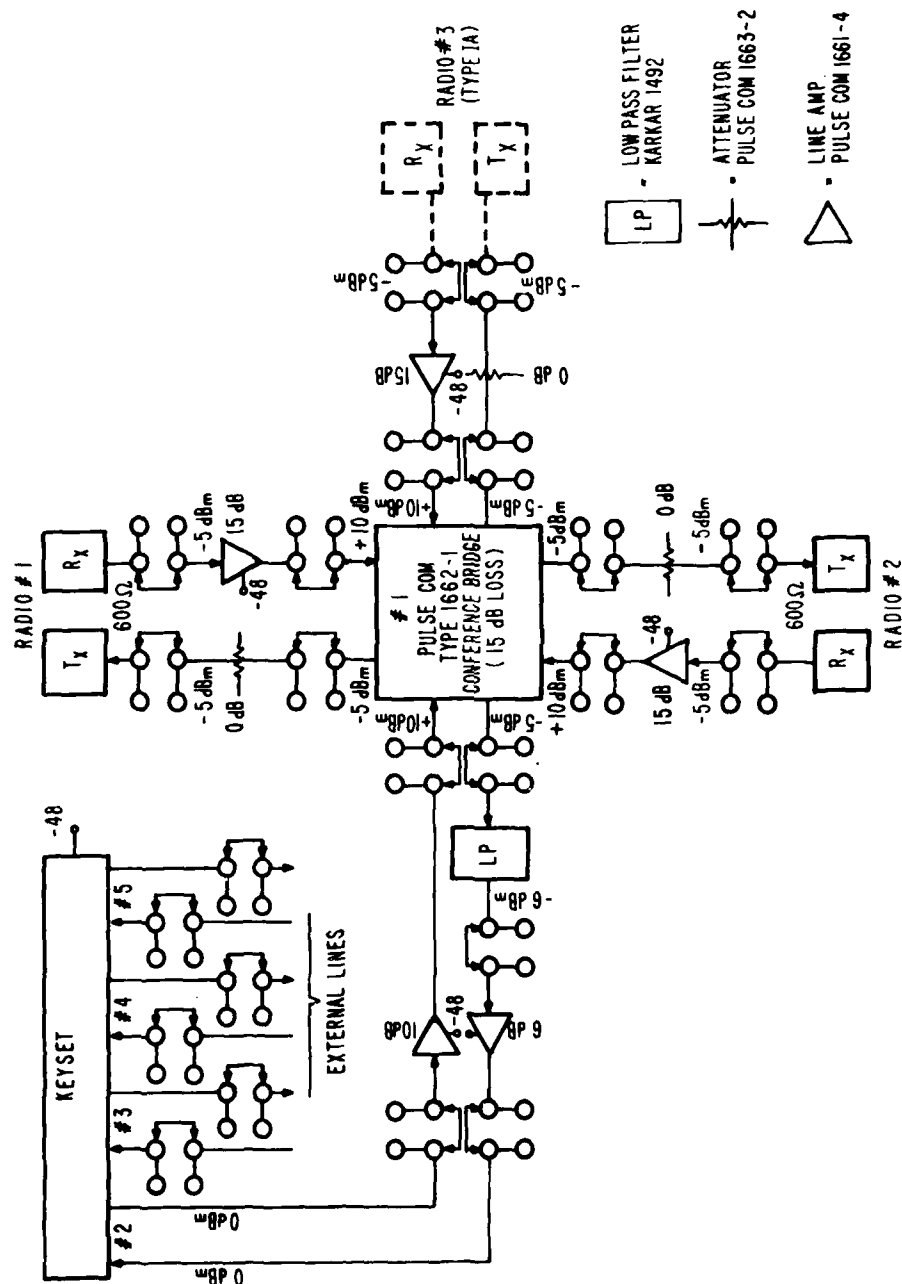

Figure 11. Supervisory Subsystem Equipment Configuration
1.2.1.1.5 Supervisory Subsystem. The supervisory subsystem includes all equipment and provisions to meet system requirements for orderwire and fault alarm. The supervisory subsystem equipment configuration for a simple repeater, as presently wired in the shelter, is shown in Figure 11. When the Type I and Type I A Contingency Packages are configured as a three-way repeater, the third (Type I A) radio is connected as indicated by the dotted lines in Figure 11. Detailed wiring connections are shown in the Logic Wiring Diagram Supervisory Patch Panel Subsystem (A1-13815D) in the shelter library.
The supervisory subsystem includes the following equipment (not all of which is depicted in Figure 11):